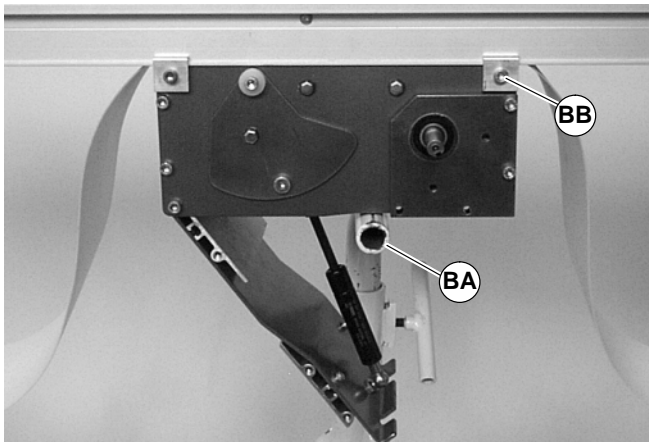

Figure 26
1. Place temporary support (BA of Figure 26) underneath the drive module.
5. Install the drive module onto the conveyor and attach clamps (BB of Figure 26) in each corner. Tighten screws to 80 in-lb (9 Nm).